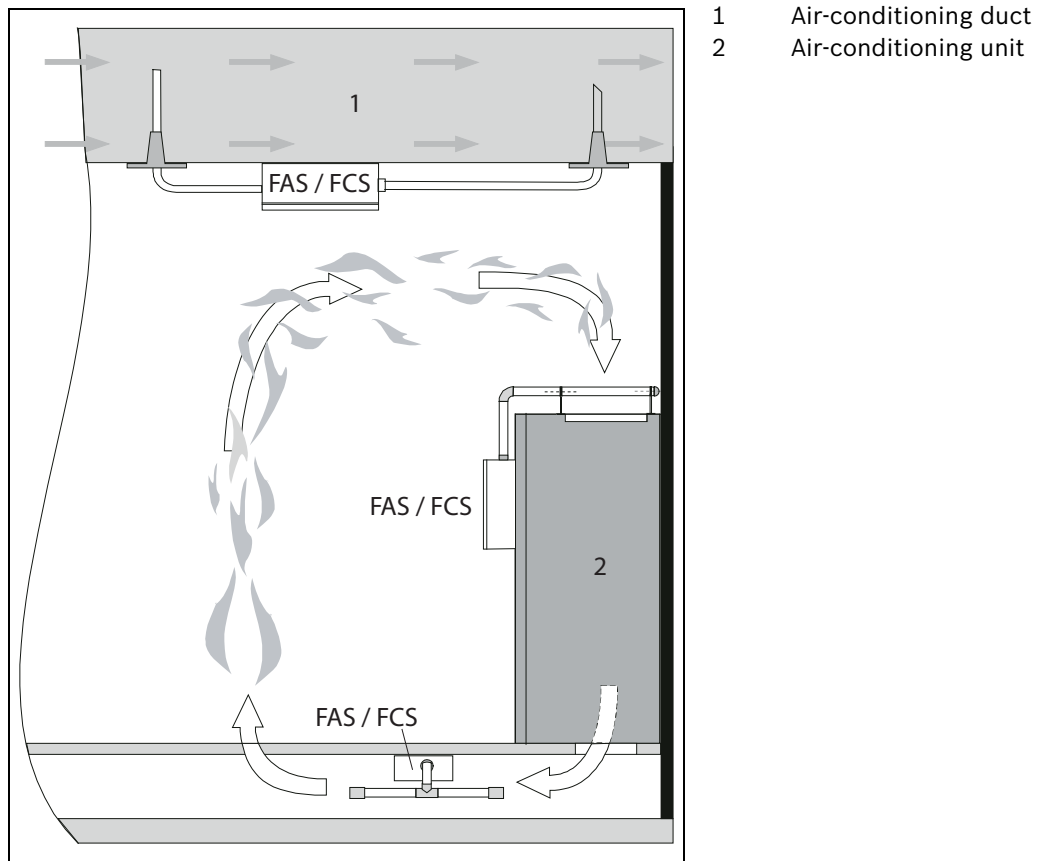

Figure 2.2 Monitoring options for an air-conditioning unit or an air-conditioning duct (depiction of principle)
- On air-conditioning units (see *Figure 2.2*) or